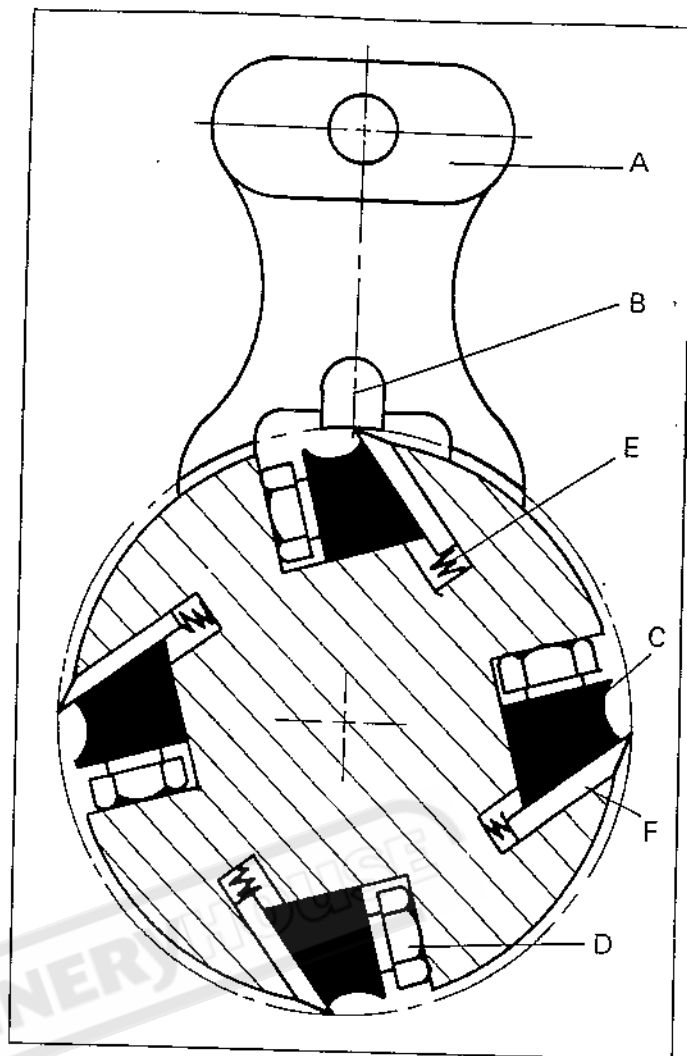

Fig. 22
3. To check and adjust knives use the knife gage (A) Fig. 22 and check all four knives. Knives should just contact the bottom of the center protrusion (B) of the knife gage, as shown in Fig. 22.
4. If an adjustment to one or more of the knives is necessary, slightly loosen the knife locking bars (C) Fig. 22, of all four knives by turning the 24 locking screws (D) Fig. 22 into the knife locking bars just enough to relieve stress in the cutterhead and not disturb the setting of the knives.
5. Using the knife gage adjust the knife, that must be reset by loosening all six locking screws (D) Fig. 22, by turning them into the knife locking bar. As the knife locking bar becomes loose, lifter springs (E) located under the knife will raise the knife until it comes into contact with the center protrusion (B) of the gage (A) Fig. 22. Then snug up the knife locking bar by lightly backing out the six locking screws (D) against the slot.
3. Remove knife, loosen the knife locking bar (C) Fig. 22, by turning the six knife locking screws (D) into the knife locking bar (C) and remove the knife locking bar (C), knife (F) and springs (E) located under the knives. Please take note, the inner two springs will pop out when removing the knife and knife locking bar.
6. Inspect the cutting edge of the knives for nicks or wire edge. Hone the knives slightly using a stone or if the knives are to be sharpened, maintain a cutting angle of 15 degrees as shown in Fig. 22.
7. Insert springs (E), knives (F), and knife locking bar (C) into slot of the cutterhead, as shown in Fig. 22. Back out locking screws (D) just enough to hold the knife in the cutterhead.
8. Place the knife gage (A) over the knife as shown in Fig. 22.
9. While holding down on the knife gage (A) Fig. 22, loosen the six locking screws (D) by turning them into the locking bar (C) until cutting edge of knife (F) comes into contact with the protrusion (B) of gage (A). Then snug up the knife locking bar (C) by slightly backing out the six screws (D) against the slot.
11. After all four knives are set with the screws just snug, back out and tighten the six screws (D) Fig. 22, against the slot starting with the end screws first and then the center screws until the knife is securely held in the cutterhead. Tighten the remaining three knives in the same manner.